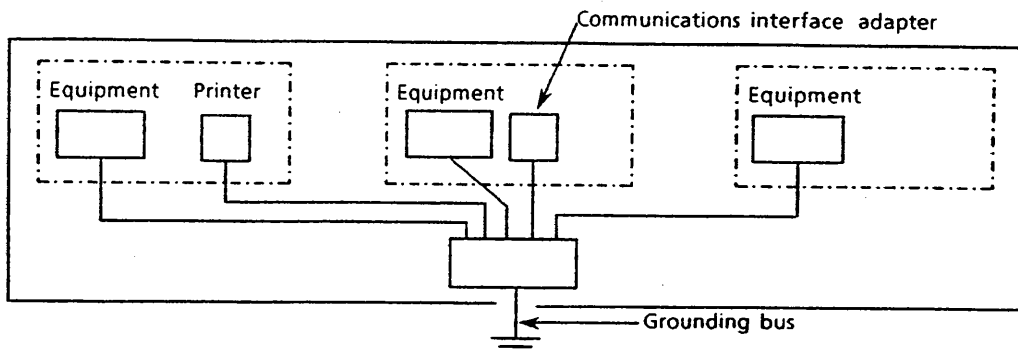

Figure 3.1 Simplified Method of System Grounding
- (1) When circumstances do not permit grounding at more than one point or by more than one grounding wire, a system illustrated in Figure 3.1 may be recommended. In this case, the grounding resistance must be sufficiently reduced (about 10 ohms), and a low-resistance conductor (about 22 mm²) must be used, to minimize common impedance.
- (2) With reference to the standard grounding system, if the distance between the grounding electrodes is great and if the ground current is large, the resultant potential difference between the grounding electrodes may cause problems. If such is the case, it is recommended that the grounding method specified in item (1) above be used.